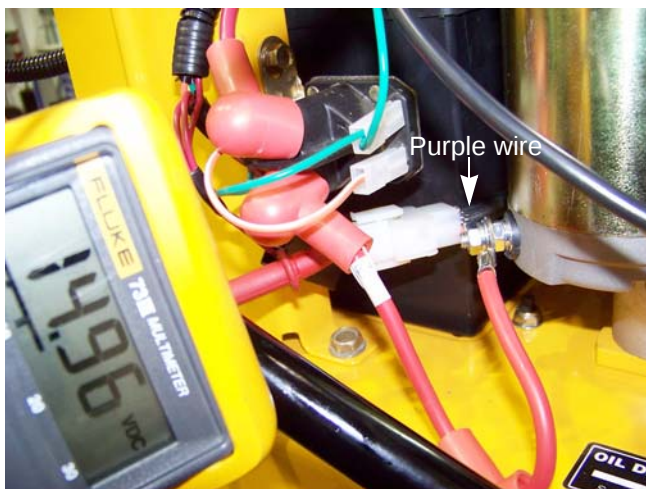

Figure 6.39
9. Back probe the purple wire of the charger harness. See Figure 6.39.